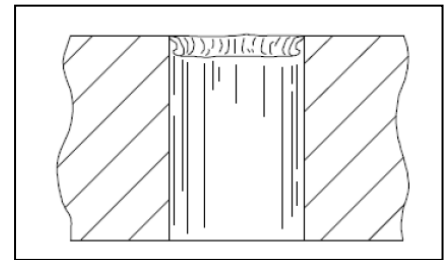

Figure 7 Rolled Burr
- e. Rolled Burr (see Figure 7):